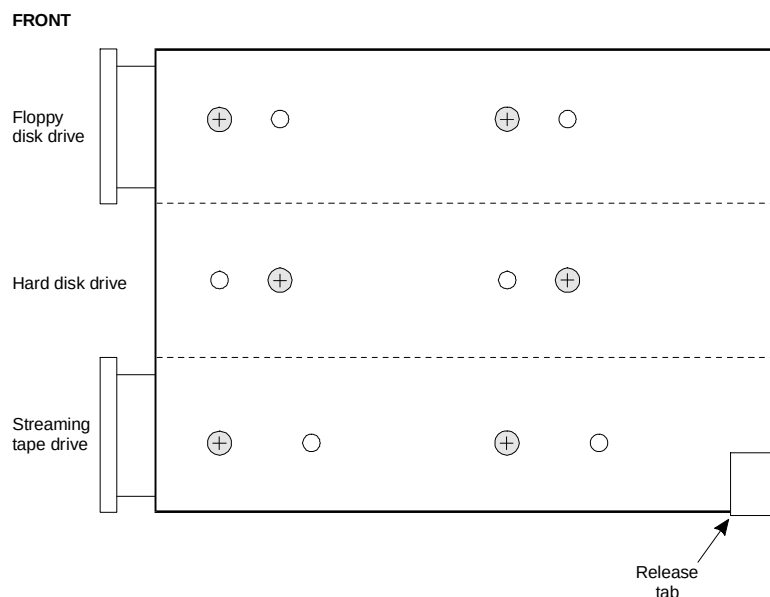

Figure C-15. Release Tab Location on the Peripheral Bay (Drive Housing)
To remove or replace the peripheral bay, refer to Figure C-15 and steps below.
3. Locate the locking tabs as shown in Figure C-15 above. Using the tip of a screwdriver, pull the tabs out until you can lift the rear of the peripheral bay.